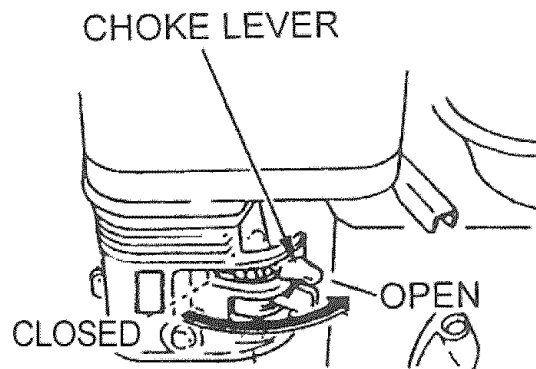

Figure 9- Choke Lever
2. To start a cold engine, move the choke lever to the CLOSED position (see figure 9). To restart a warm engine, leave the choke lever in the OPEN position. Some engine applications use a remotely-mounted choke control rather than the engine-mounted choke lever shown here.